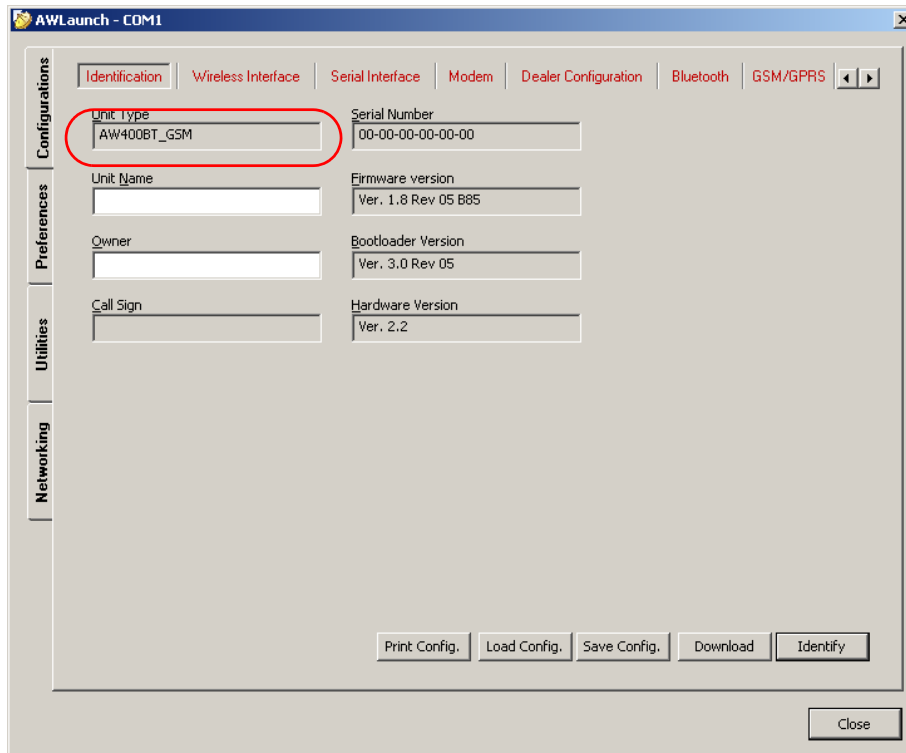

Figure 2-6. Identification tab
5. Once the identification process completed successfully unit's information will appear n the *Identification* subtab of *Configurations* tab (Figure 2-6 on page 22), i.e. serial number, firmware, hardware and boot loader versions.